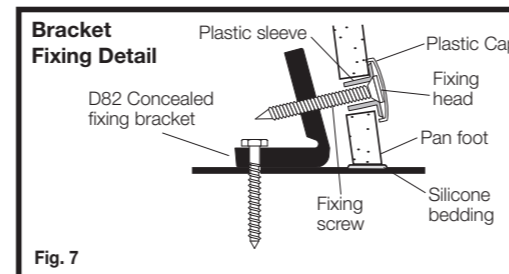

Fig. 7
- 7- Connect pan to connector and locate plastic fixing sleeve into holes in the pan. Insert screw into the bracket and tighten. **IMPORTANT - DO NOT OVER TIGHTEN, AS THIS MAY CRACK THE PAN FOOT.** Snap on plastic cap (supplied), as detailed in Fig. 7.